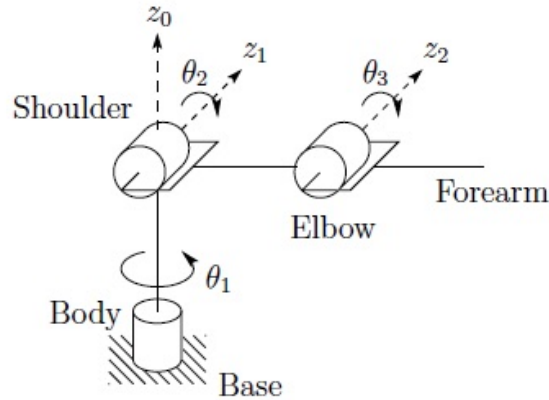

Figure 1: A 3 DoFs Robot
1. **Manipulability.** Consider the manipulator shown in Fig. 1. The system has three degrees of freedom where the joint variables are  $q = [\theta_1 \ \theta_2 \ \theta_3]^T$ . Assume all the link lengths are equal to 1m.